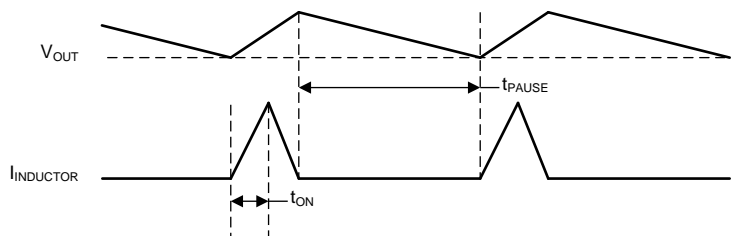

Figure 3. Power Save Mode Waveform Diagram
- Added Figure 3 to power save mode section 7
During PAUSE period in PSM (shown in Figure 3), the device does not change the PG pin state nor does it detect an UVLO event, in order to achieve a minimum quiescent current and maintain high efficiency at light loads.